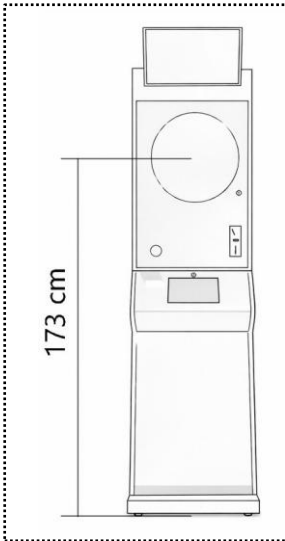

Figure 5.3: Bullseye height (Bull)
- The recommended bullseye height (Bull – the red center segment) is 173 cm from the floor, in accordance with current standards for electronic darts (see Figure 5.3).